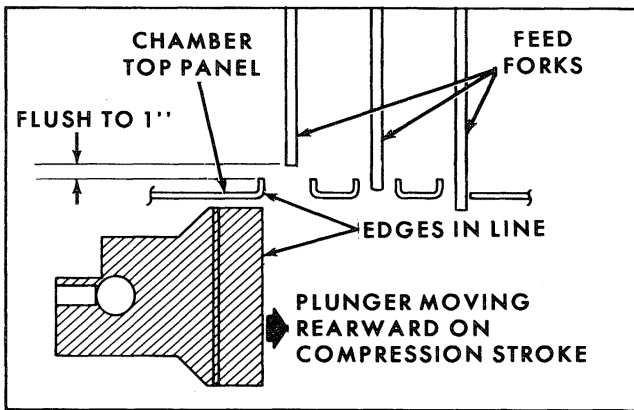
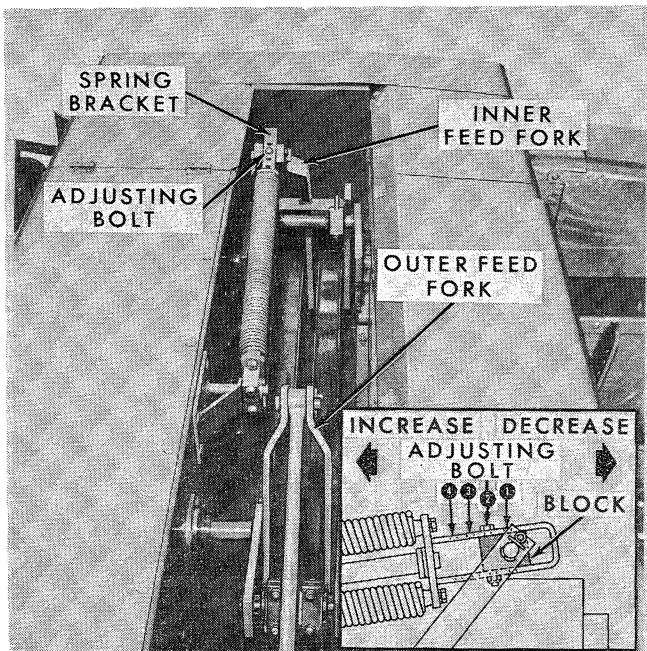

Figure 27
Figure 28
The inner feed fork must be properly timed with the plunger. This is necessary so that material will be fed uniformly into the bale chamber and to prevent the plunger from striking the inner feed fork. To check the timing, rotate the flywheel and position the plunger on the rearward stroke so that the projections on the plunger face align with the vertical flange of the feed fork stripper slot. At this point, the tip of the feed fork tines should be positioned flush to 1" above the vertical flange as shown in Figure 27, with the adjusting bolt in the second hole from the left, as shown in Figure 28. If adjustment is required, proceed as follows:
4. Position the feed fork tines flush to 1" above the vertical flange of the feed fork stripper slot, with the adjusting bolt in the second hole from the left, the curved end of the block facing left, and the connector pin positioned in the middle hole of the feed fork as shown in Figure 28. Failure to do so will result in incorrect feed fork timing.
To obtain the balanced flow feeding feature that is designed into the Ford Baler, the outer feed fork must be properly timed with respect to the inner feed fork. Proper timing exists when the two feed forks are 180° opposite each other, i.e., when one crank is up the other must be down, or when there are 29 chain pitches between the holes in the two sprockets. See Figures 28 and 29. If the timing requires adjustment, proceed as follows:
1. Reposition the adjusting bolt, Figure 28, in the next hole, (3) or (4), to the right (facing direction of baler travel).
2. Remove the connector pin, turn the bearing block end-for-end so that the curved end is to the right, and insert the adjusting bolt in hole (3).
1. Reposition the adjusting bolt, Figure 28, in the next hole (1) to the left, with the curved end of the bearing block facing left (facing direction of baler travel).